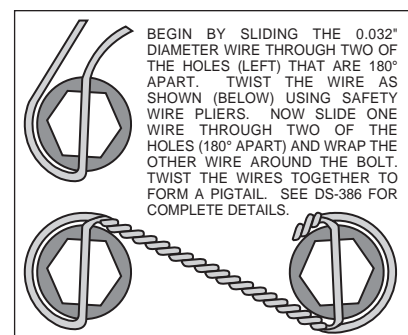

Figure 6. Safety Wire Diagram
- With the slot pointing upward and the mounting ears pointing towards the rear of the vehicle, install the caliper mounting bracket (1) to the housing flange using the stock Original Equipment Manufacturer (OEM) bolts and nuts. Stock OEM hex nuts that retain the bracket (1) should be on the wheel side of the bracket. Apply red *Loctite*® 271 to the stock OEM bolt threads and torque to OEM specifications. **NOTE:** Make sure the heads of the caliper mounting bracket insert nuts are **FACING OUTWARD TOWARDS THE WHEEL**.
- Bolt the hat (2) to the rotor (3) using washers (4) and bolts (5). Torque bolts (5) to 180 in-lb. Safety wire bolts (5) using standard 0.032 inch diameter stainless steel safety wire as shown in Figure 6. Please refer to Wilwood's data sheet DS-386 for complete safety wire installation instructions.
- Align the correct hole pattern in the hat (2) with the stud pattern on the axle flange. **NOTE:** Some OEM and after market axles come with stud sizes larger than 0.50" diameter. Verify stud size and have a qualified machine shop drill the hats to the correct size. Slide the hat/rotor assembly (2 and 3) over the wheel studs and against the axle flange face.